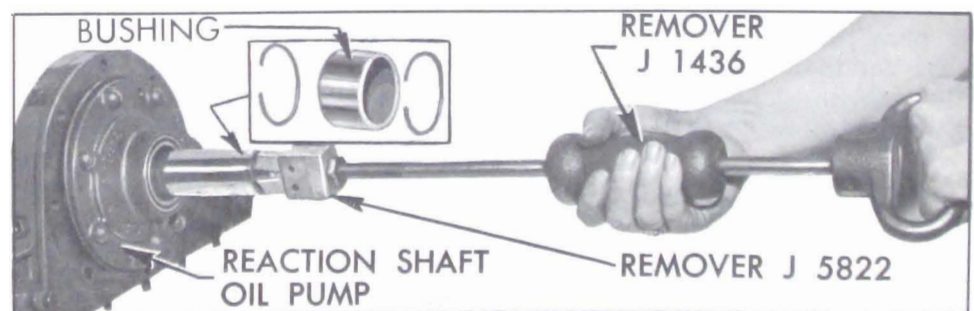

Figure 5-80—Removing Input Shaft Bearing
2. Inspect the input shaft bushing in front end of reaction shaft. If bushing is damaged or excessively worn, remove outer retaining ring and then remove the bushing, using remover J-5822 installed on remove J-1436. See Figure 5-80. Oil pump must be in place to support the reaction shaft flange during bushing removal.